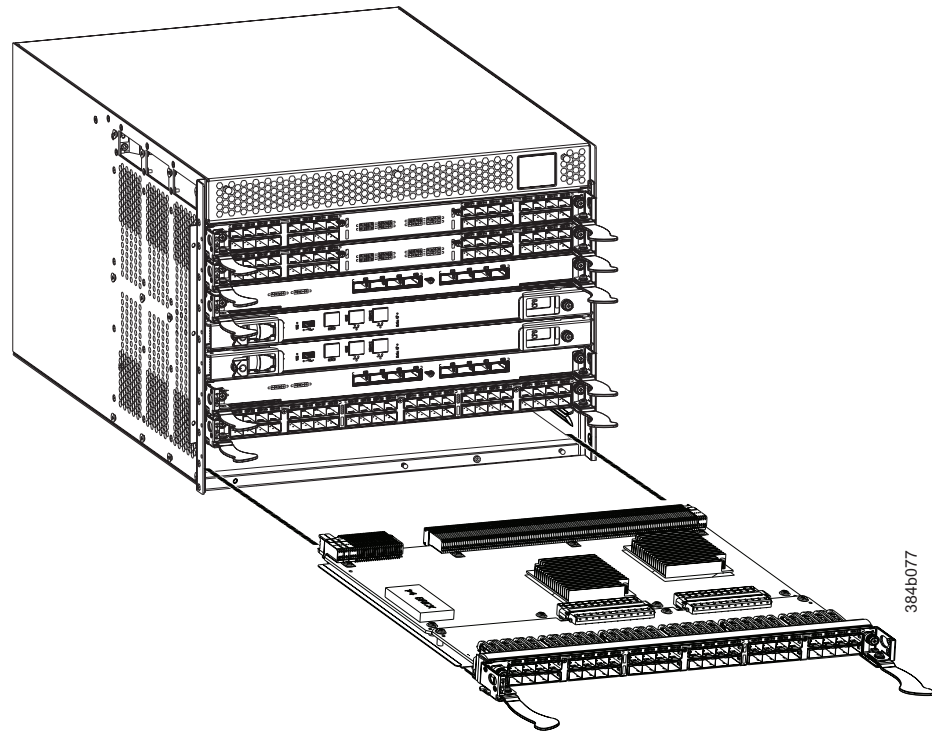

Figure 33. Port, application, and encryption blade removal and installation (FC16-48 port blade shown)
10. Open the ejectors by pulling them toward the center of the blade face. Pull the blade out of the chassis using the ejectors (Figure 33).